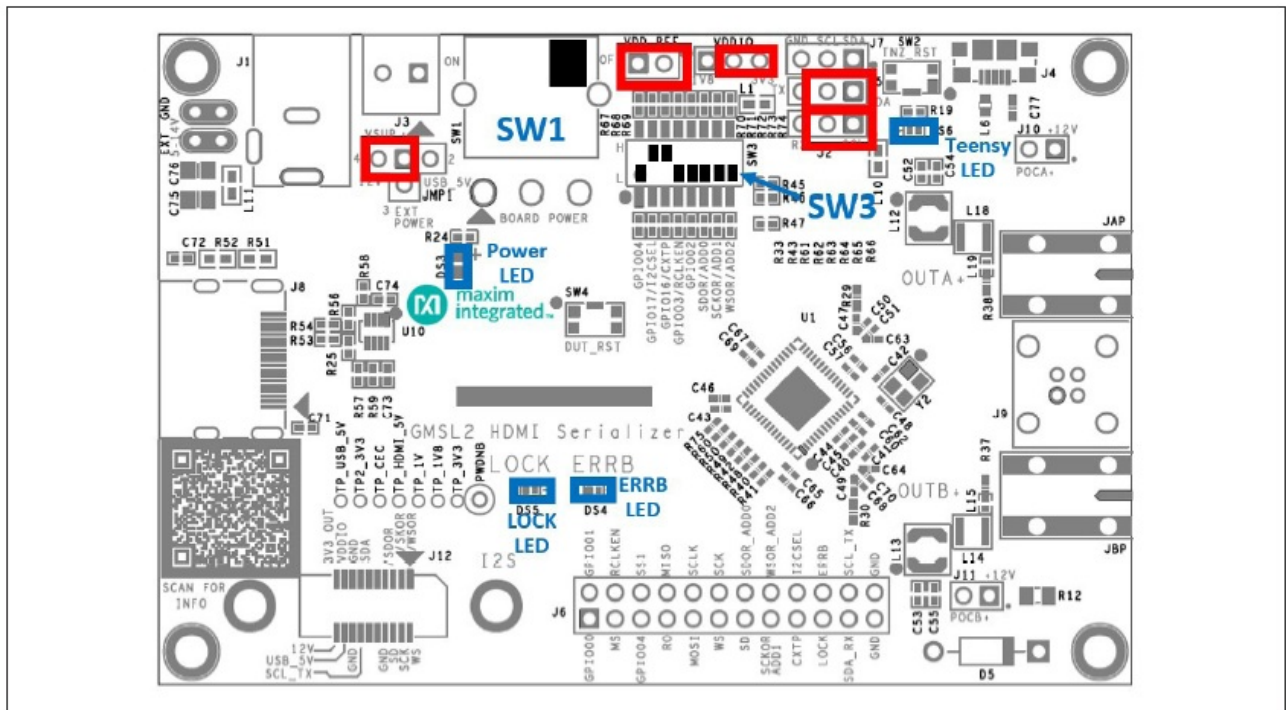

Figure 3. Serializer Evaluation Board Default Jumper
2. Verify that the on-board jumpers on the deserializer board are in their default positions (Figure 3) with SW1 off.
3. Configure SW3 as shown in Figure 3 to set serializer address to 0x80, coax mode, and I2C control.